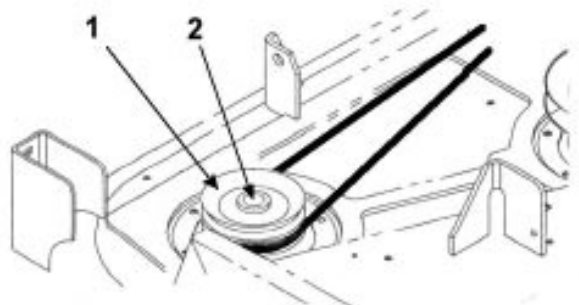

Figure 2
4. Install the double pulley on spindle. Secure with flatwasher and nut. Tighten the nut to 80 – 100 lb./ft. (109 – 136 NM) (fig. 2).